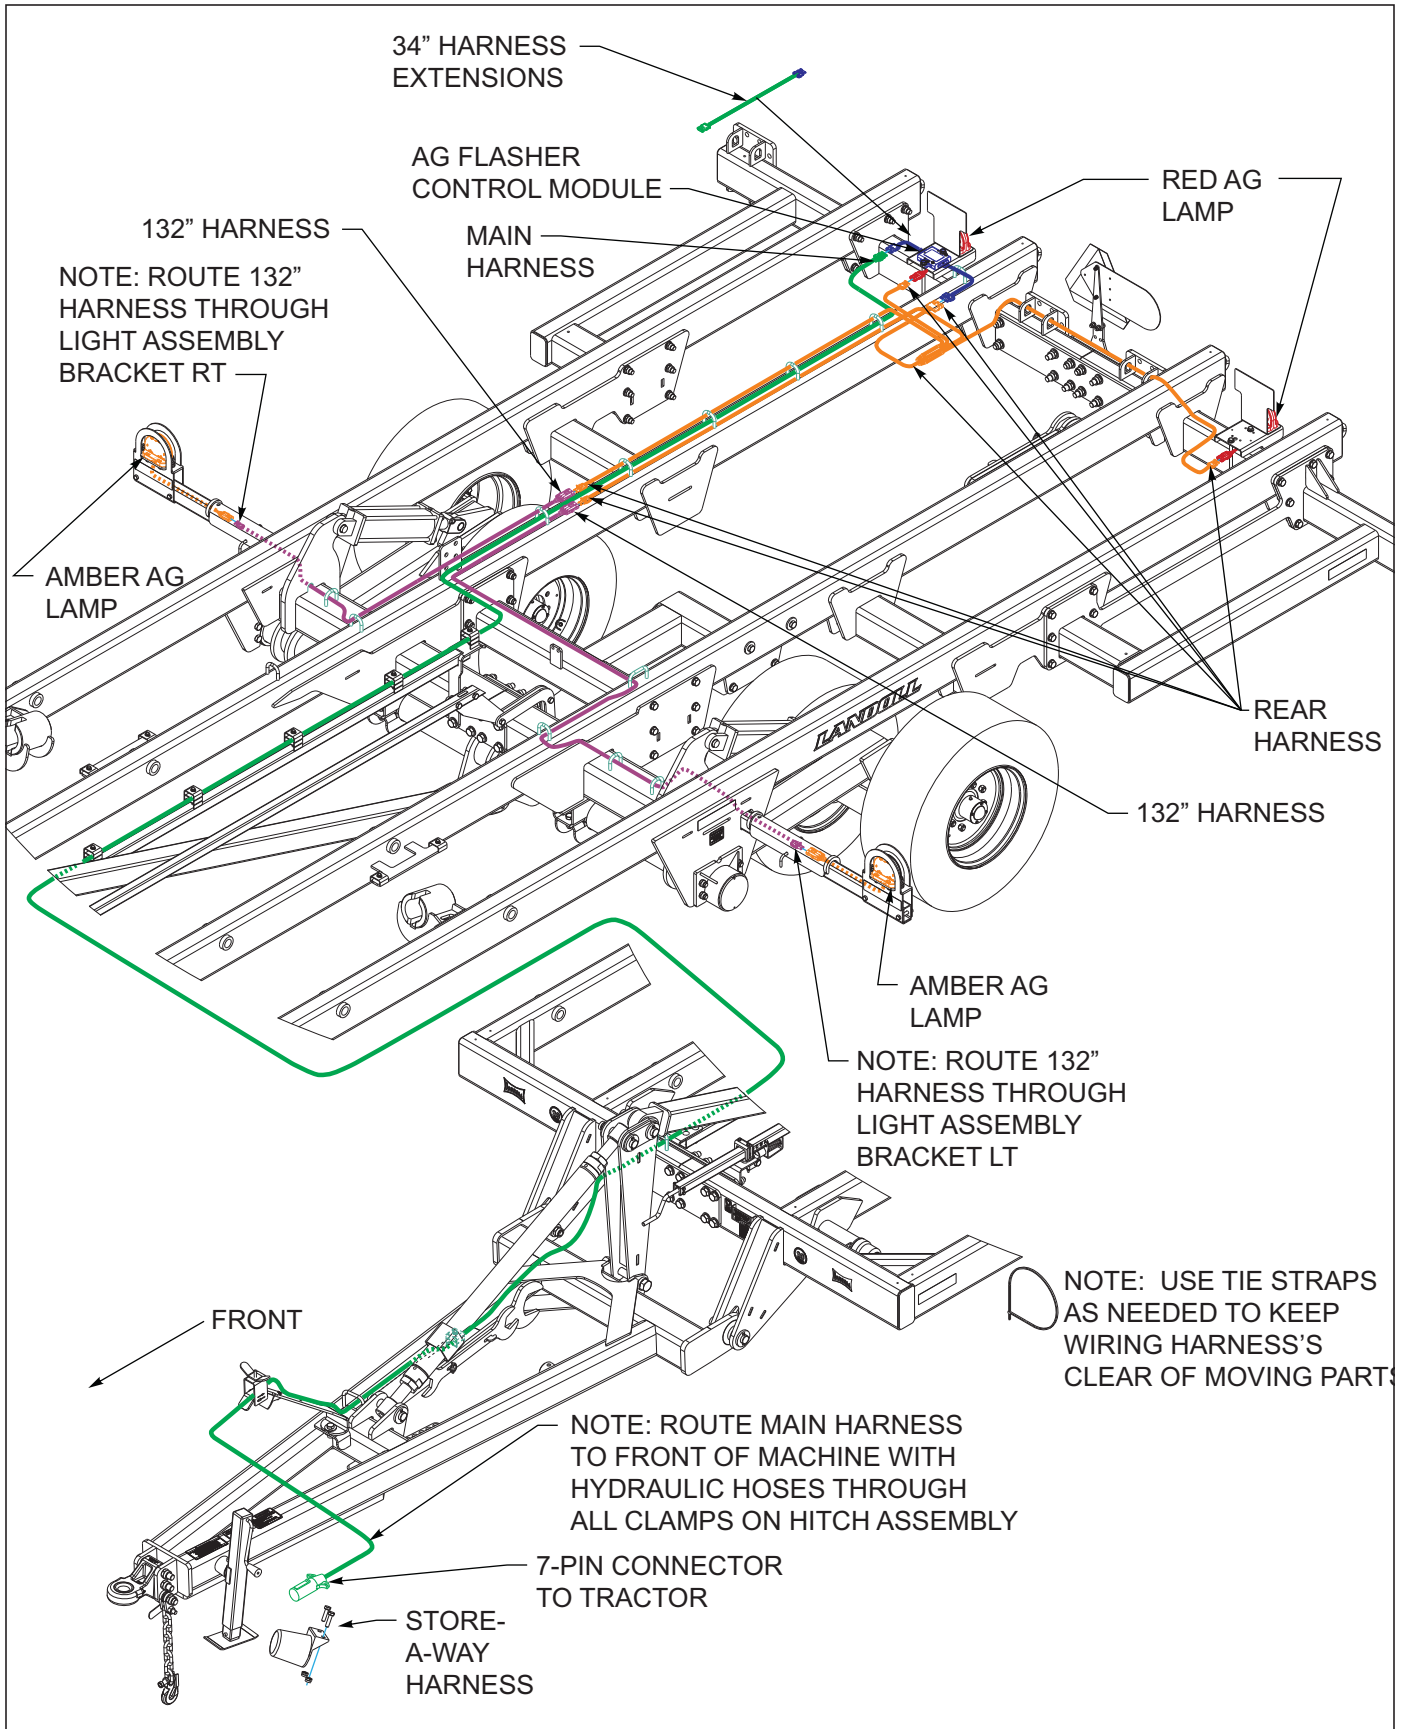
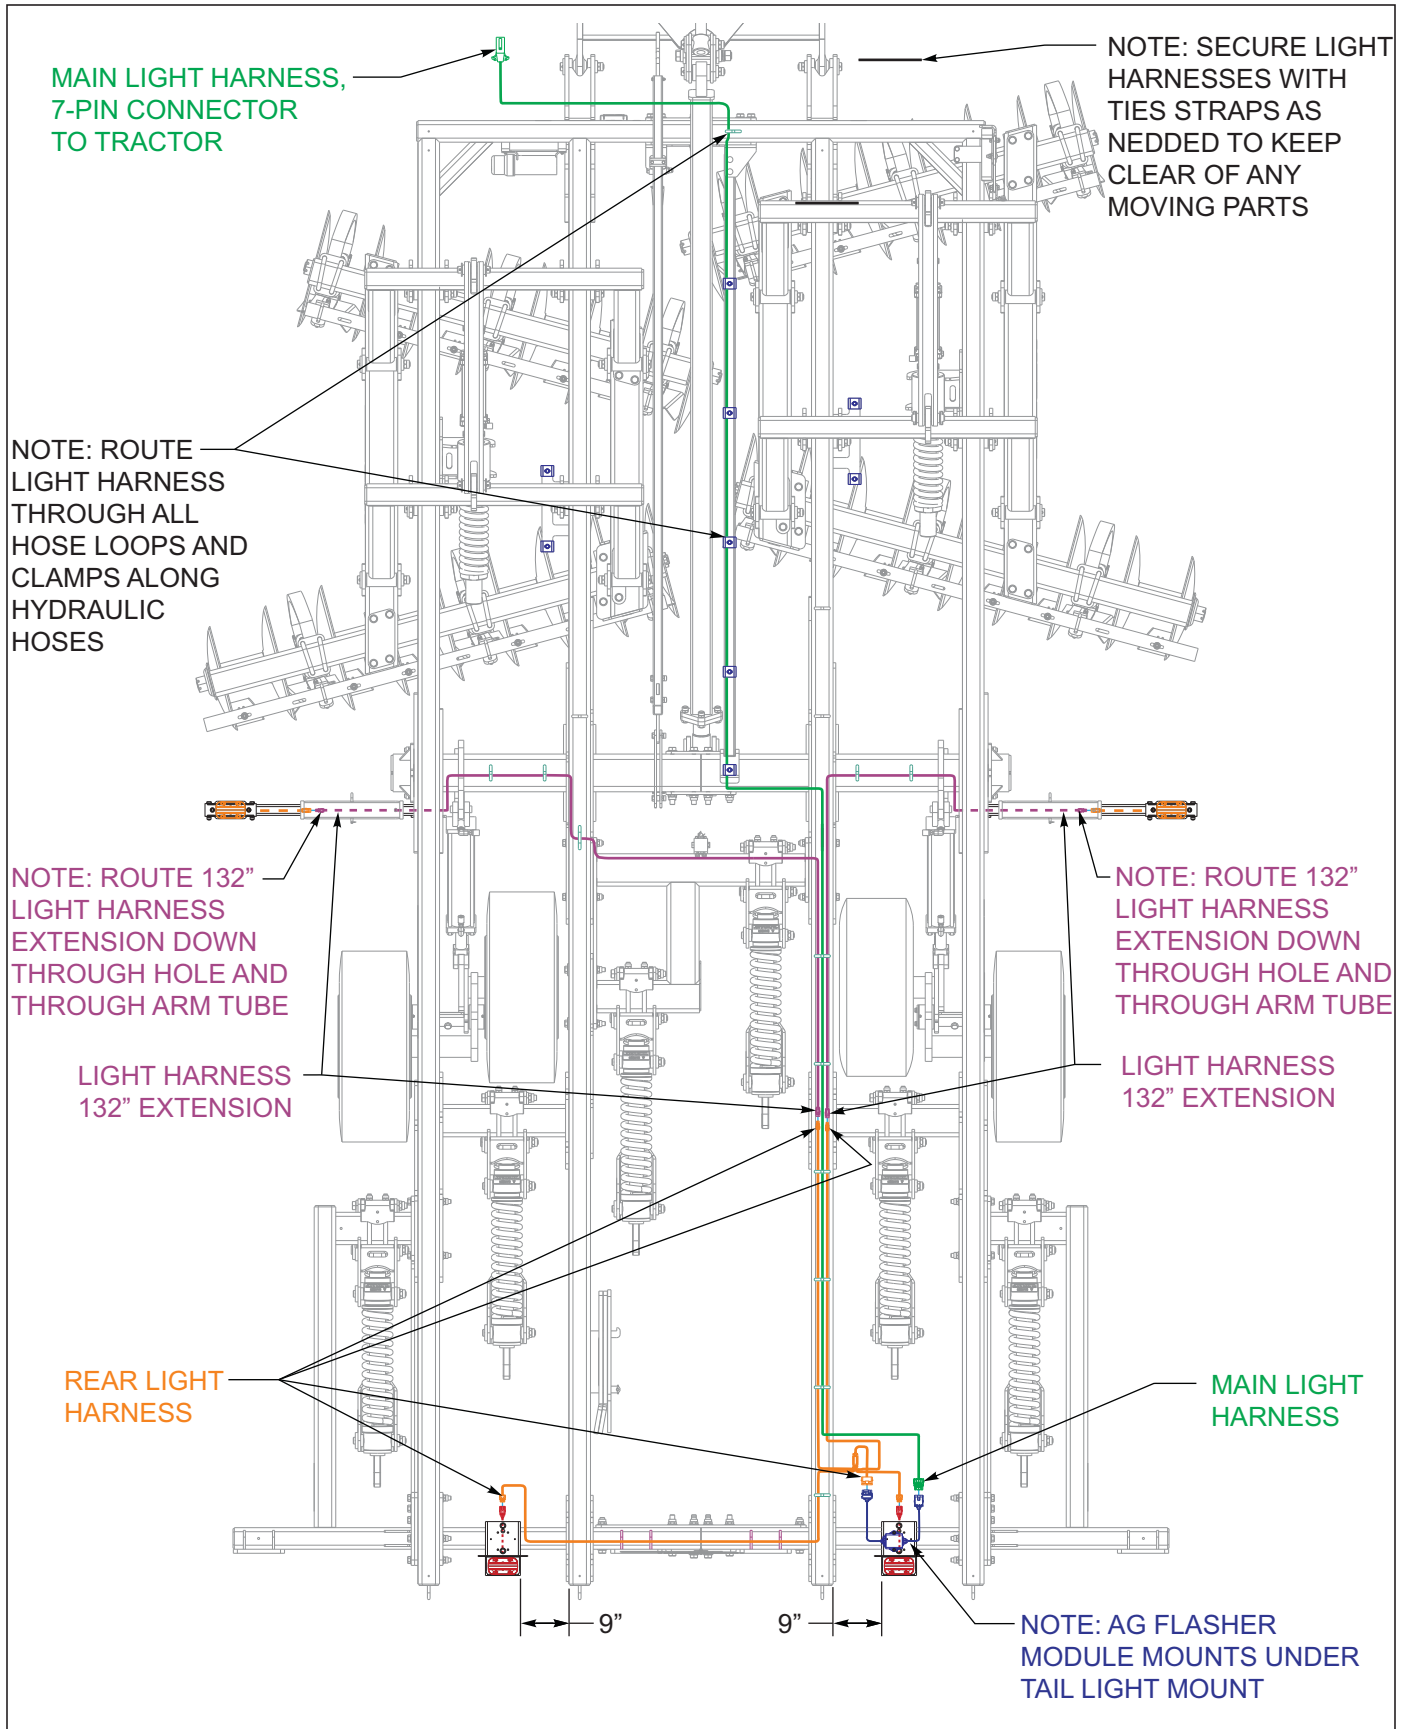
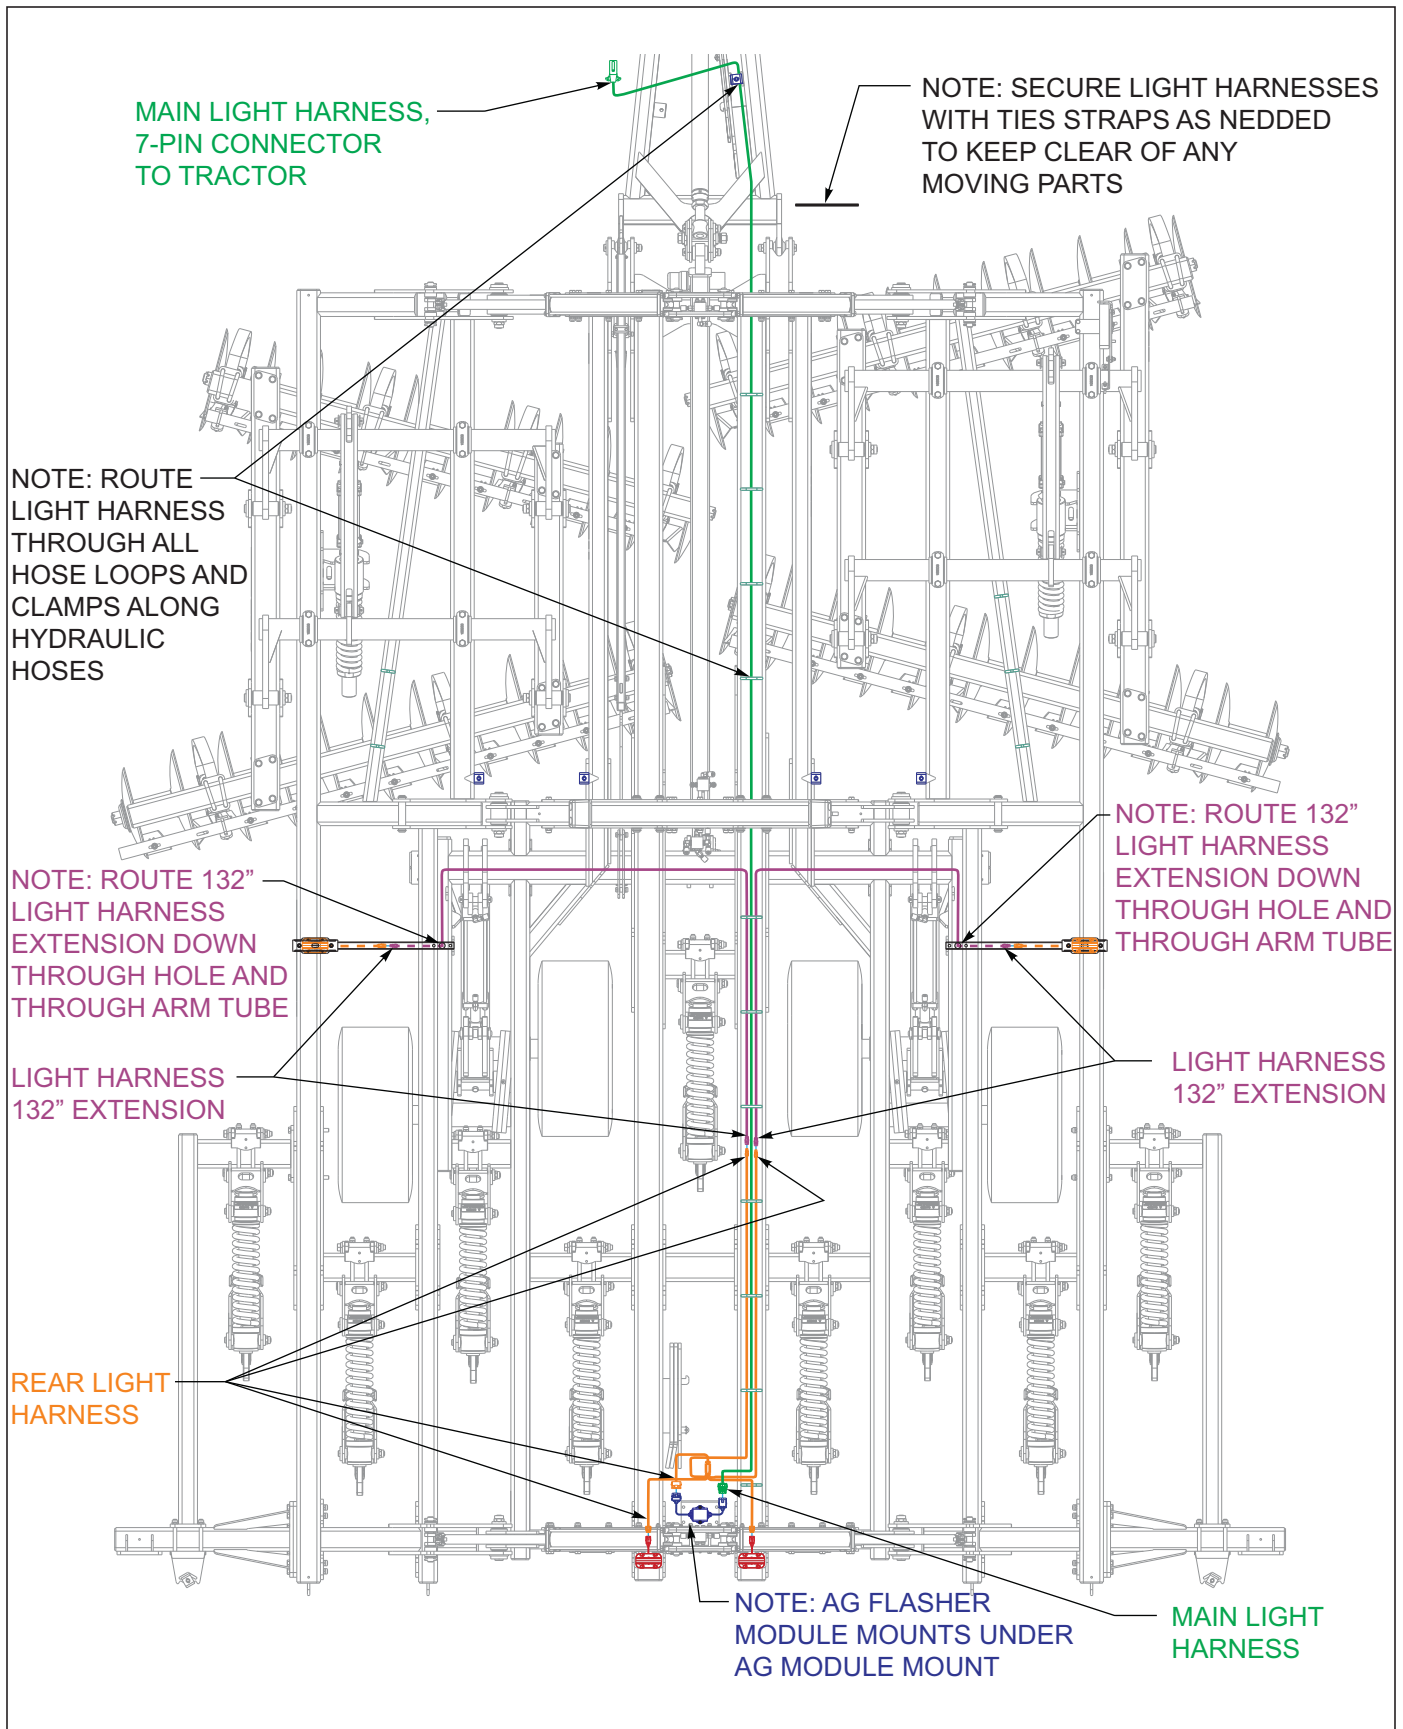

Figure 3-36: Electrical Assembly W/LED Lights 2411-06
Figure 3-37: Electrical Layout W/LED Lights 2411-06
Figure 3-39: Electrical Layout W/LED Lights 2411AFG-07-09
- Connect the 3 pin ends of the rear harness to the red warning lights. Connect 6 pin to the ag flasher control module *See Figure 3-36 and 3-37*. *See Figure 3-31 for LED harness wire designations*. Route both 2 pin ends, of the rear harness through the hose loops of center frame as shown *See Figure 3-37* Model 2411-06 or *See Figure 3-39* Models 2411AFG-07-09.
- Two 34" harnesses are provided if needed for main harness to reach from ag flasher control module to the tractor *See Figure 3-36* Model 2411-06 or *See Figure 3-9* Models 2411AFG-07-09, for location.